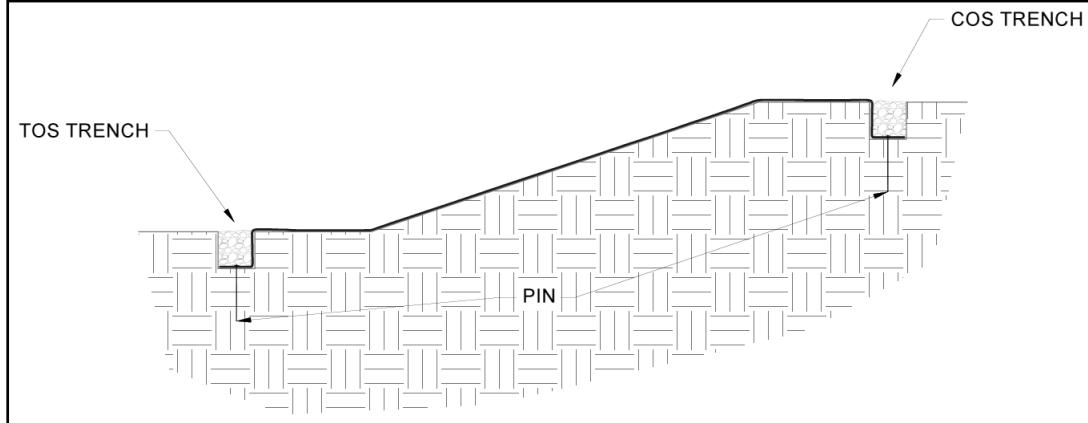

Figure 12: Crest of Slope (COS) Trench and Toe of Slope (TOS) Trench Complete
1. Begin the LANDLOK laydown process by starting with the downstream / downwind end of the site. To ensure proper pinning of the overlapped areas the proceeding roll width must be laid out before the current roll width can be pinned with exception to the final roll width. For straight sections of a slope, LANDLOK panel lengths should be long enough to construct COS and TOS trenches while also covering the surface of the slope being armored (Figure 12). Panel edges should rest approximately perpendicular to the slope center line. For best results, panels of LANDLOK should be continuous and free from seams or roll end overlaps that are parallel to the centerline of the slope. Panel edge overlapping should follow a pattern of placing each proceeding panel's edge overtop the previous panel edge, shingling the panels in the direction of the water flow or prevailing wind.
- Secure LANDLOK with pins in the TOS trench. Suggested placement of pins for the TOS trench is along the bottom of the trench with pins on 12 in (300 mm) centers (Figure 12).
8. Backfill and compact the TOS trench. (Figure 12)